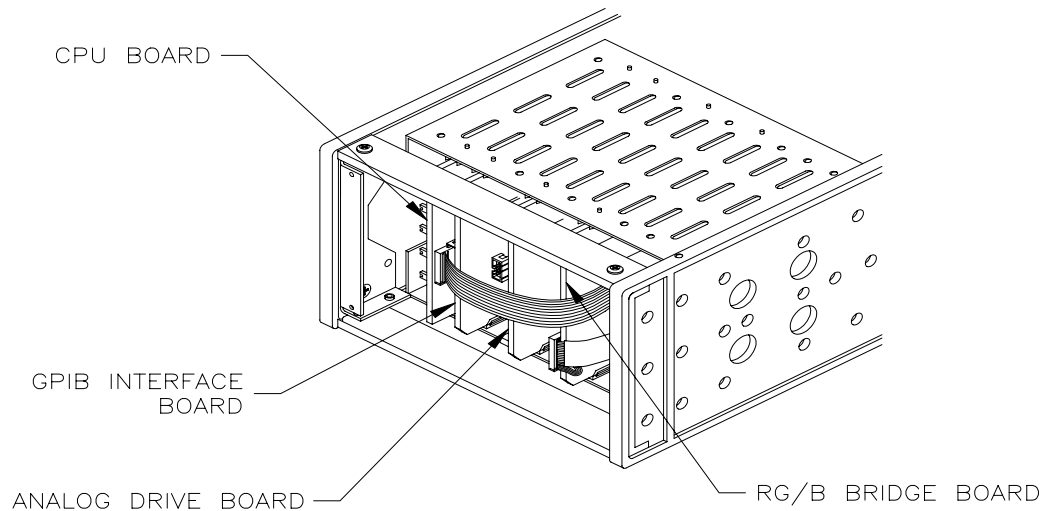

Figure 1 1802 Controller Board Layout
4. Remove the front panel of the 1802 by removing the face plate screws and disconnecting the power switch (figure 1).
5. Refer to figure 1 to locate the CPU board. This board is at the left end of the board slots.
6. Remove the CPU board by pulling it out of its socket (figure 1). It may be seated quite tightly. Grip the board by the top and bottom edges while being careful not to contact any of the board